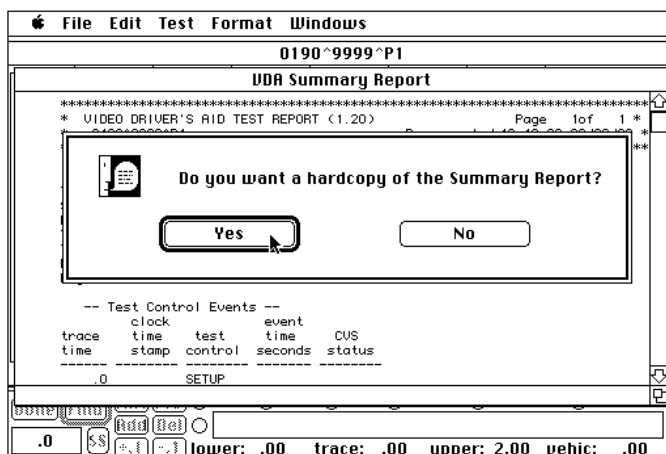

Figure 2
- 2.0 Close the Summary Report by positioning the mouse pointer on the “Close” box in the upper left corner and clicking it. The VDA will prompt you with the message “Do you want a hardcopy of the Summary Report?” See Figure 2.